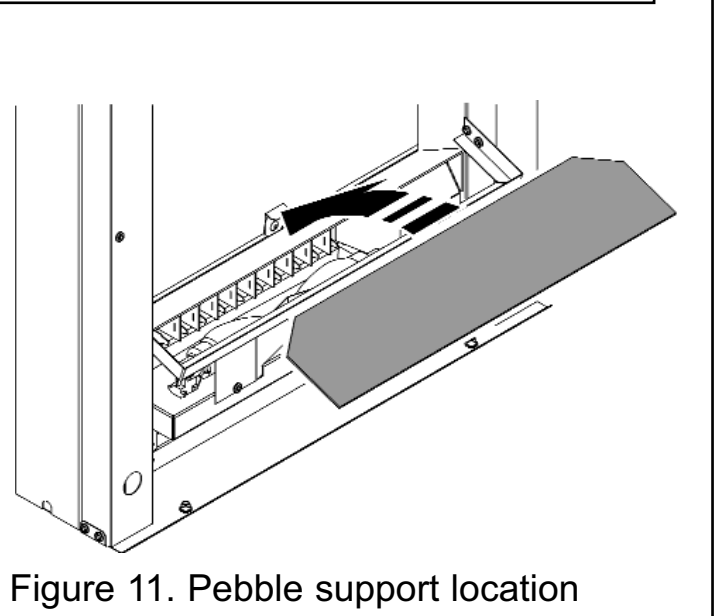

Figure 11. Pebble support location
2. Locate the fuel support. The rear of the fuel support should rest on the small bracket at the base of the screen (See figure 11).